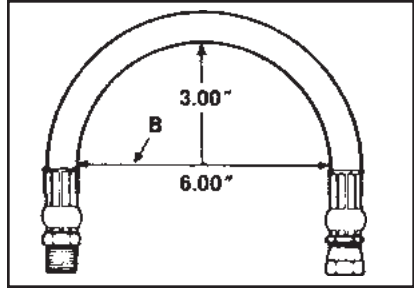

Fig. 28
9. Keep the bend radius of the hose as large as possible to avoid collapsing the hose and restriction of flow. Minimum bend radius is measured on the inside bend of the hose. To determine minimum bend, divide the total distance between ends (B length) by 2. For example, B = 6", minimum bend radius = 3". **(Fig. 28)**